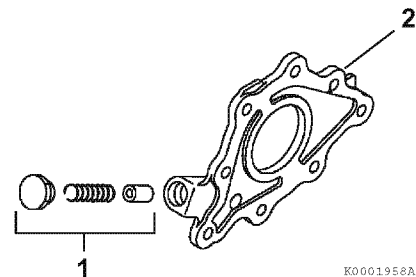

Figure 9-6
6. Remove the oil pressure regulator valve (**Figure 9-6, (1)**) from the oil pump cover (**Figure 9-6, (2)**).